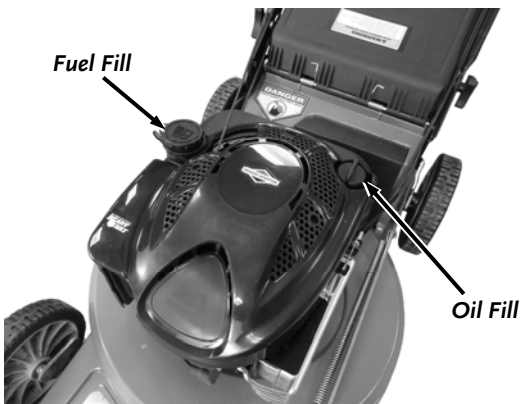

Figure 9
- Place the machine on a level surface remove the Dipstick (**Figure 9**).
- Remove the Gas Fill Cap and fill the Gas Tank with fresh, unleaded gas (with a minimum of 85 Octane) to approximately 1" to 1-1/2" below the top of the fill neck to allow for fuel expansion (**Figure 9**). Be careful not to overfill and reinstall the Gas Fill Cap before starting the engine. See your Engine Owner's Manual for more detailed information.